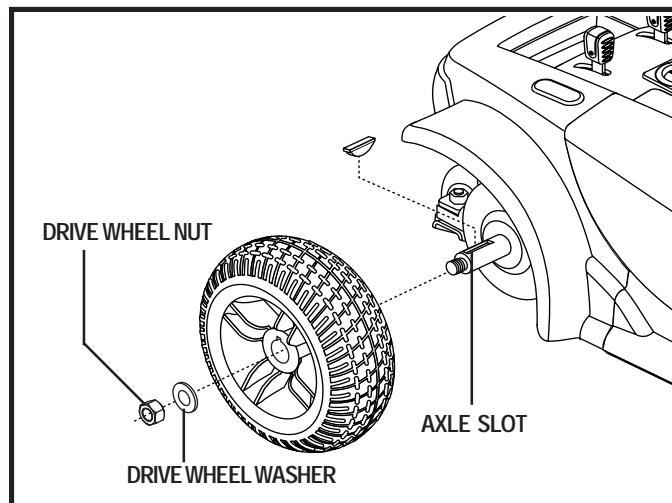

Figure 23. Go-Chair Drive Wheel
3. Remove the drive wheel nut and washer from the axle. See figure 23.